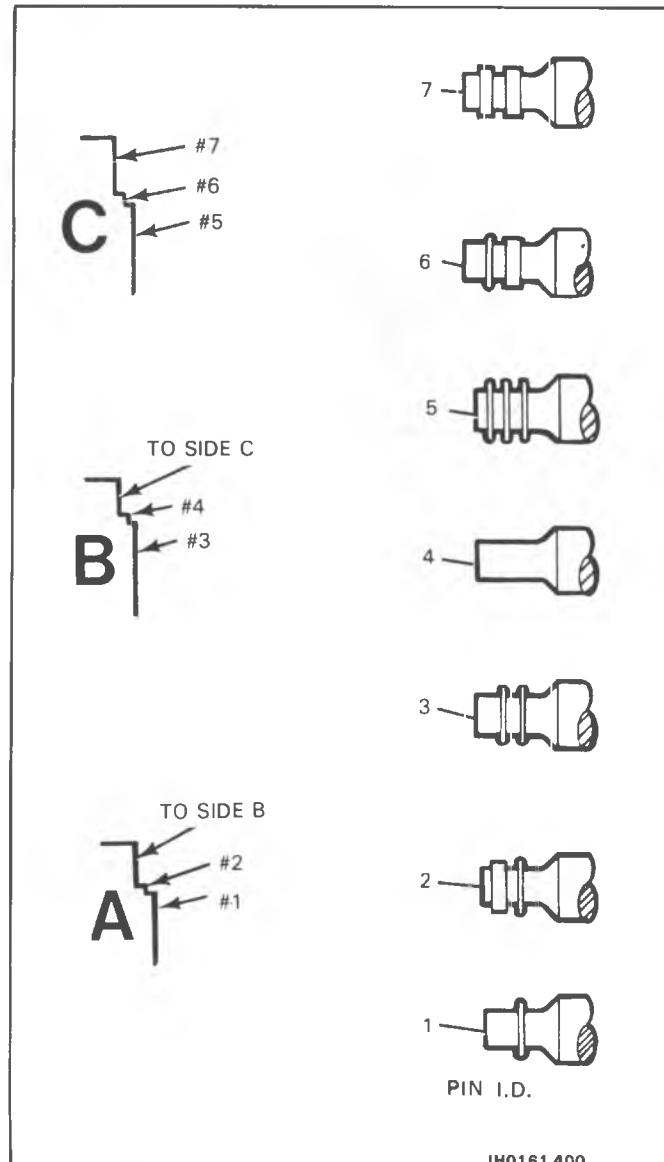

Figure 11- Band Apply Pin Selection Chart
6. For pin selection, see Figure 11.